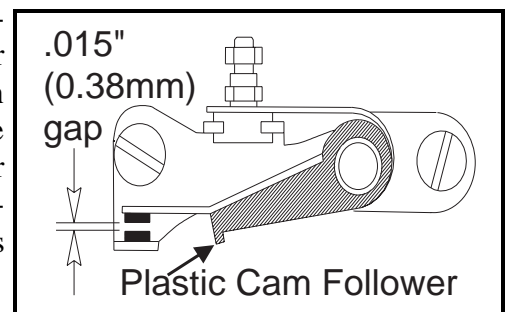

FIGURE 10 (MSSMA401AE)
Setting the Gap in the Commutator Switch Breaker Points (FIGURE 10)
2. Loosen the breaker point mounting screws and insert a .015" (0.38mm) feeler gauge between the contacts (FIGURE 10).